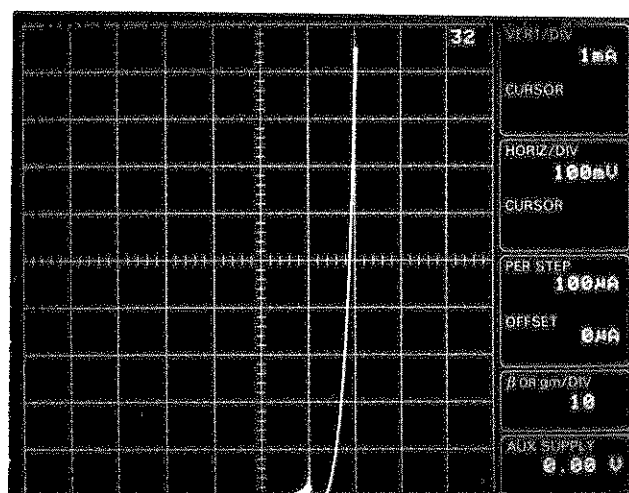

Figure 3-18. Averaging display.
77. Set the ACQ MODE control to 32 AVG. The averaging count (this case, 1 through 32) is displayed at the upper right corner of the crt (see Figure 3-18), and the acquired curves are averaged.